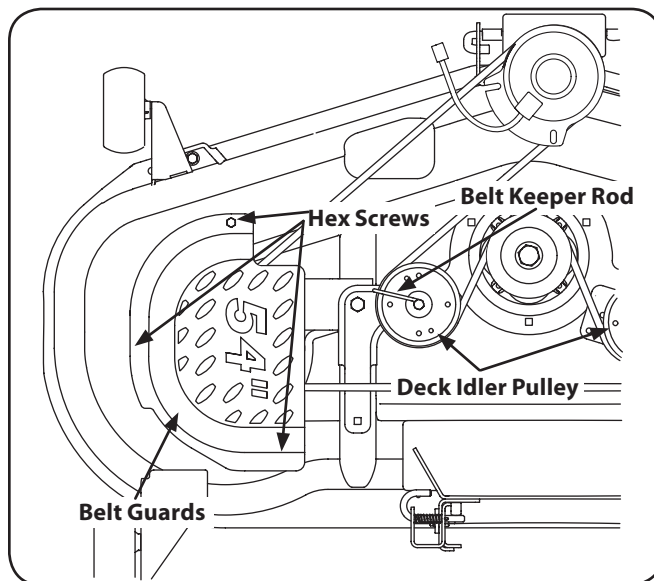

Figure 7-7
2. Remove the belt guards by removing the hex screws that fasten them to the deck. See Figure 7-7.
3. Loosen, but do not remove the belt keeper rod on the pulley located near the back of the deck. See Figure 7-7.